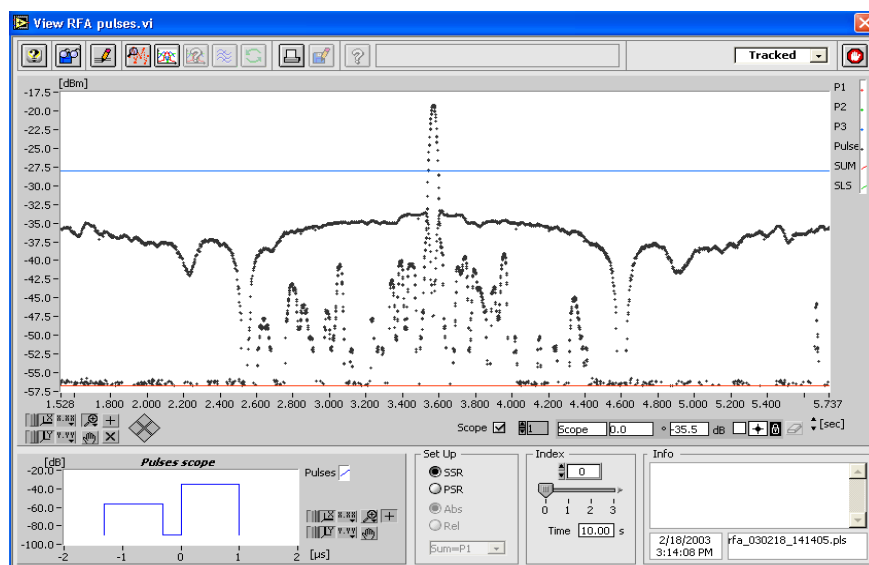

Figure 29: HPD Extraction Threshold Control
4. The blue cursor, **Boresight**, determines the detection of boresight. To have correct boresight detection, this cursor should be set above the sidelobes and lower than the boresight maximum of the radar of interest. When a number (default: 5) of pulses above boresight are detected (taking into account the selected timing and extraction method), boresight is declared. Using the boresight positions, the revolution time is calculated. Figure 29 is a good example of the correct positioning of the **Threshold** and **Boresight** cursors